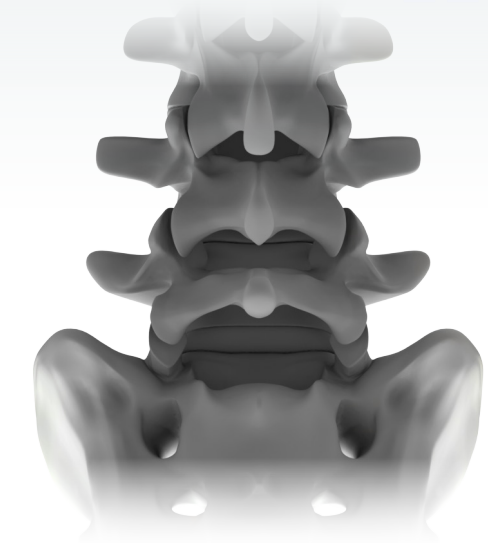

Figure 2
- Create an incision lateral off the midline for either a posterior lumbar interbody fusion (PLIF) or a transforaminal lumbar interbody fusion (TLIF) (Figure 2).